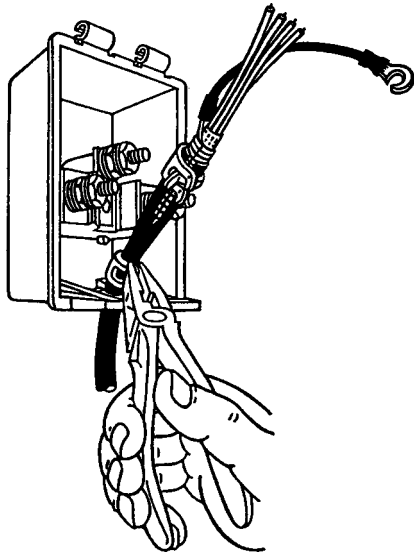

FIGURE 6
5.01 Use pliers to slip spring clamps (refer to chart) around the service wire and serrated portion of the SERVI-BOND™ Shield Connector. See Figure 6.